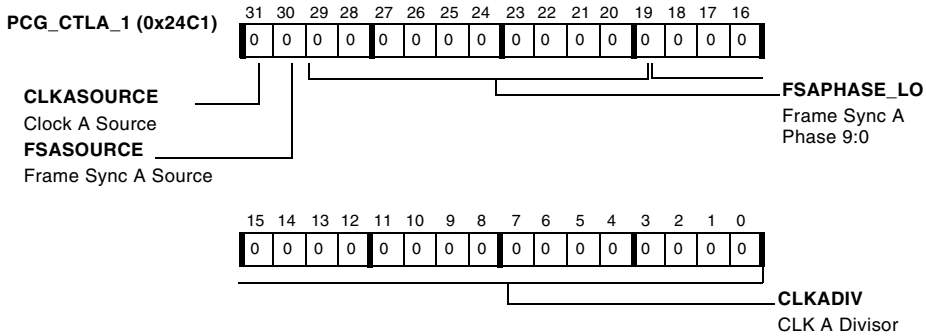

Figure A-57. PCG\_CTLA\_1 Register
- PCG\_CTLA\_1, described in Figure A-57